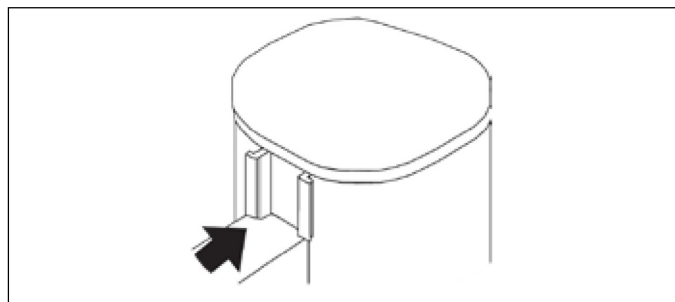

Figure 15
- C. For end post, take a short side cover strip and push into the reveals on the post as shown on **Figure 15**.